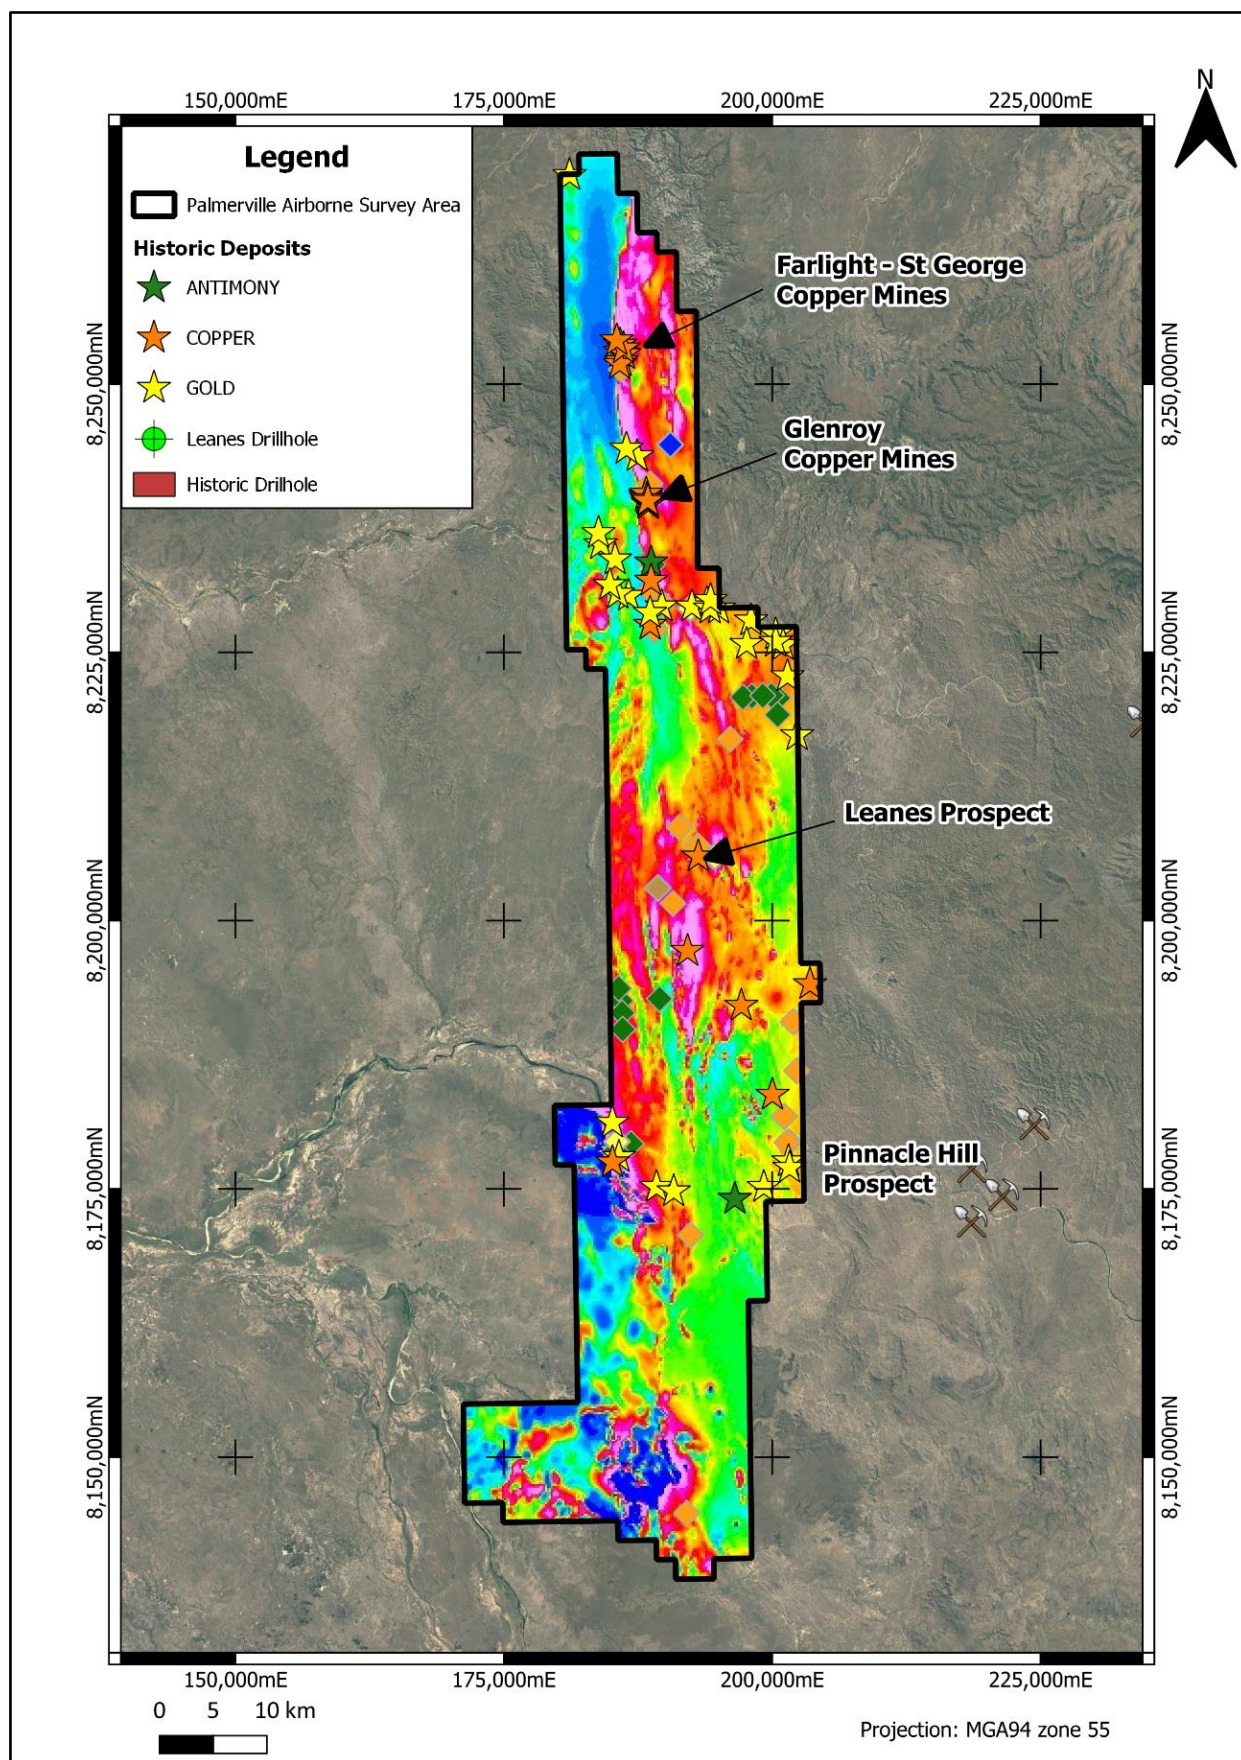

Figure 1: Palmerville Airborne Magnetic data (RTP) and Major Prospects
- Initial observations show the clear delineation of the Palmerville fault structure in the northern section of the project area which controls the Fairlight and Glenroy deposits (Figure 1 below)
NMR considers the Northern Chillagoe Formation as a priority exploration target, as the region is highly prospective for the critical minerals such as copper, gold and antimony (Figure 1). Additionally, the region has had no previous high-resolution geophysical surveys and remains a geological outlier given its prospectivity for copper, gold and other minerals, and the lack of modern exploration in the past two decades.